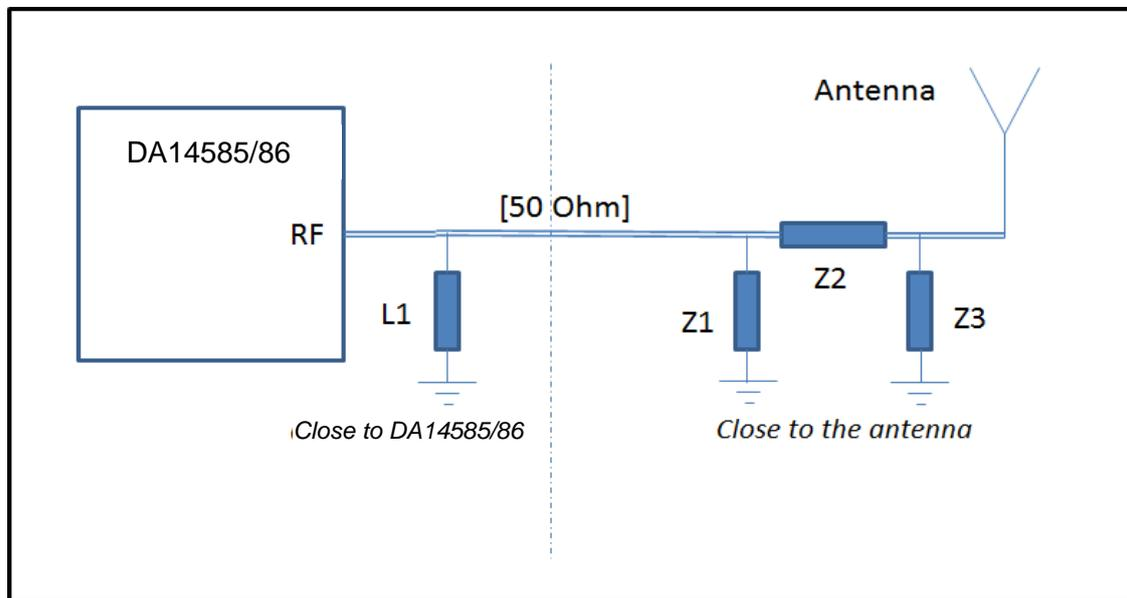

Figure 3: Antenna matching network
- This shunt inductor is L1 in Figure 3. It shall be placed as close as possible to DA14585/14586. This matching ensures best RF sensitivity and highest RF output power. Additionally it gives a 50  $\Omega$  point as a reference for the antenna matching.
- Z1, Z3, and Z2 in Figure 3 are components for antenna matching. These parts should be placed close to the antenna. Most universal is a PI matching network, having two shunt components and one series component. Type and value fully depend on the antenna type, but typically small pF caps and low nH inductor values are expected here. To guarantee a constant matching over production, good tolerance components are recommended. In most cases, not all three parts are required to have a good matching.